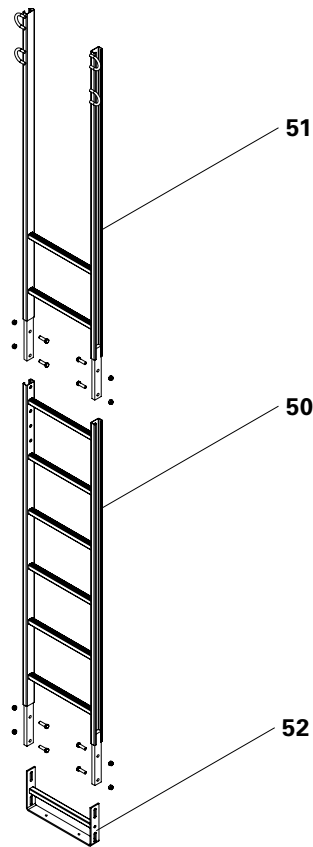

Fig. B6.03
1. Lay out End Ladder 180/2 (51), Ladder 180/6 (50) and Ladder Base (52).
2. Connect End Ladder 180/2 (51) to Ladder 180/6 (50) using Bolts M12x40, SW 19.
3. Fix Ladder Base (52) to Ladder 180/6 (50) using Bolts M12x40 SW 19. (Fig. B6.03)
1. For horizontal mounting of the Ladder, tightly screw the drawn-out bracket of the Ladder Base to the planking with 3 Torx TSS 6 x 40. (Fig. B6.03)